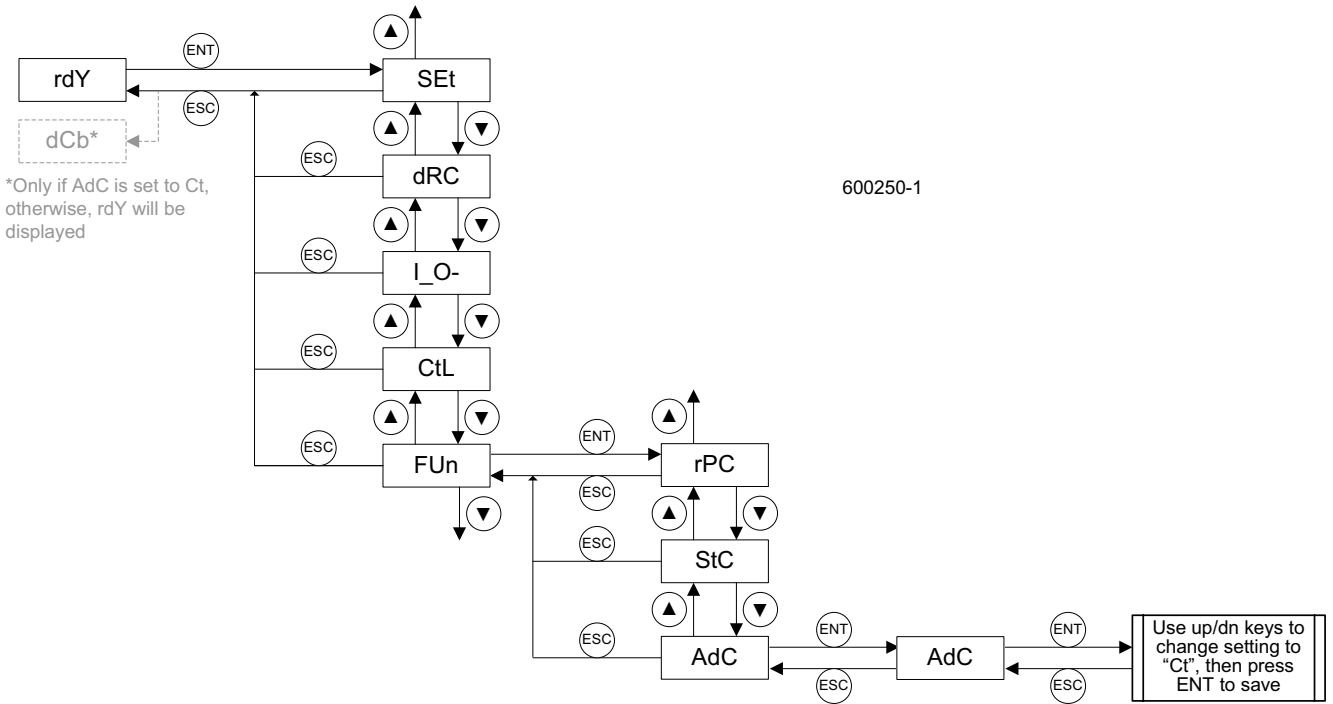

FIGURE 7 (PAGE 1 OF 2)
**NOTE:** A graphical version of the following instructions is provided Figure 7 on page 9.
See Figure 7. A graphical version of the above instructions is provided on the following pages.